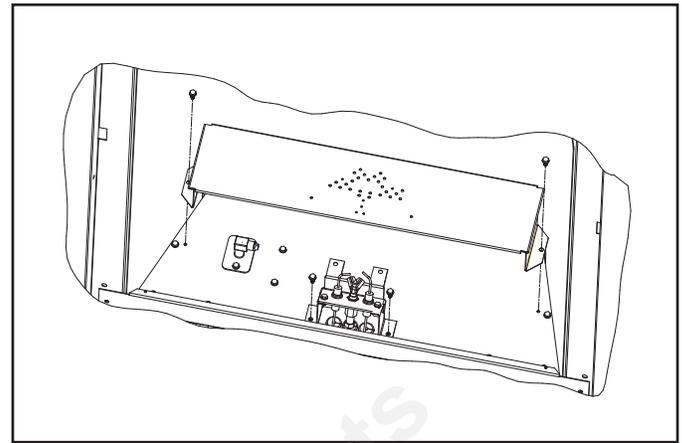

Figure 9.3
- Unscrew the brackets at both ends of the burner and the top two screws locating the pilot bracket (see Figure 9.3). Slide the burner away from the burner orifice.